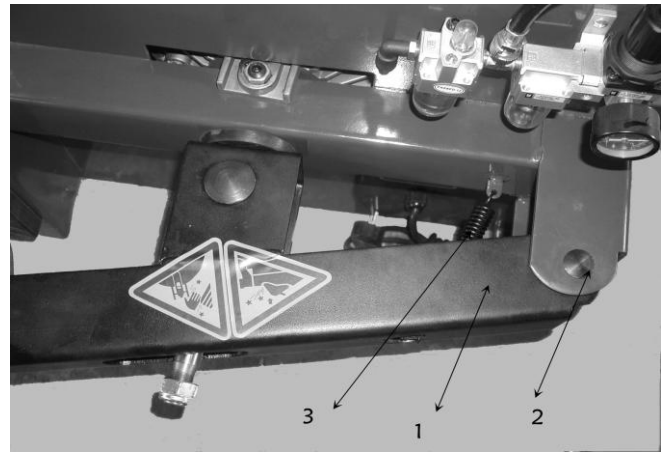

Fig 4-6
4.2.7 Insert the bead breaker arm (1) into the bead breaker bracket on the body and align the two holes and mount the bead breaker arm pin shaft (2) and also elastic retaining ring to positioning. Hang the spring (Fig 4-6-3) as shown in Fig 4-6.